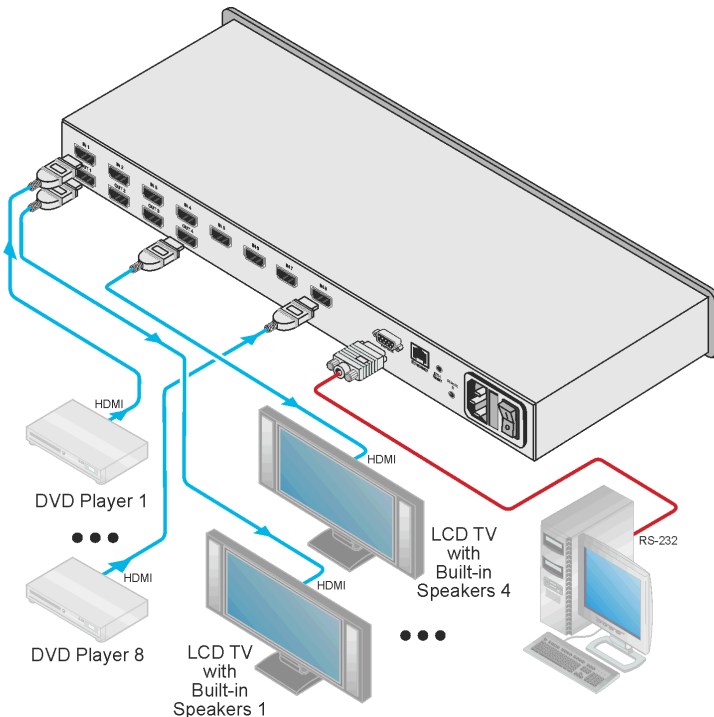

Figure 3: Connecting the VS-84H 8x4 HDMI Matrix Switcher
To connect¹ the VS-84H 8x4 HDMI Matrix Switcher as illustrated in the example in Figure 3:
4. Connect the device to the mains electricity (not shown in Figure 3).